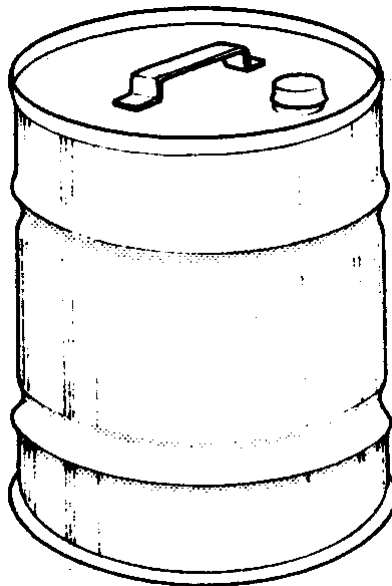

Figure 5: Drum
- (a) State **TWO (2)** types of cutting processes that involved in edge preparation prior jointing each joints for the pipeline elbow and define their terms briefly. (6 marks)
- (b) Name and sketch **TWO (2)** types of devices that are commonly used in holding parts for fitting up the **Joint A**. (6 marks)
- (e) Propose **ONE (1)** type of joint and its shielding gas for **Joint B** if it uses stainless steel. Explain briefly the principle of Gas Metal Arc Welding (GMAW). (4 marks)
- (c) According to Figure 5, identify and explain briefly the type of stiffener that is applied on the body of the drum.